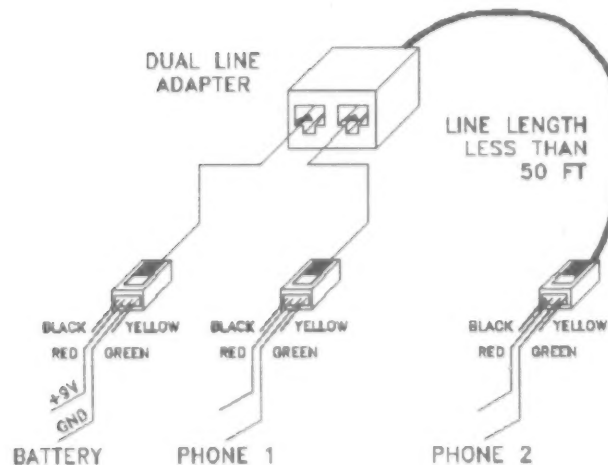

Figure 14 - Wiring Harness
1. Construct the following wiring harness using one end from a telephone cord. Connect a battery to the lead as shown in Figure 14.